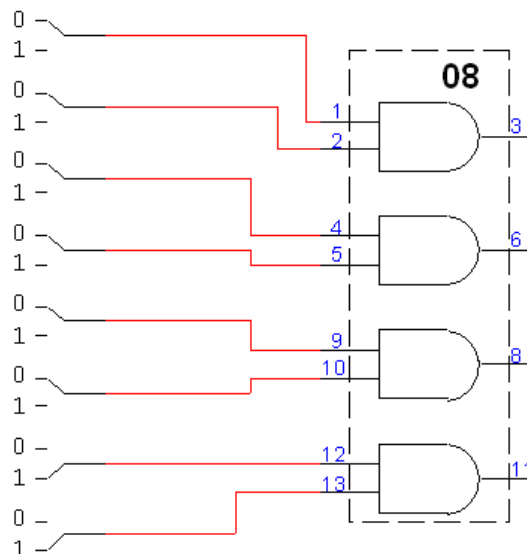

Figure 5 Connection of binary switches to AND gates
- Connect the binary switches to the inputs of the AND gates as shown in figure 5.